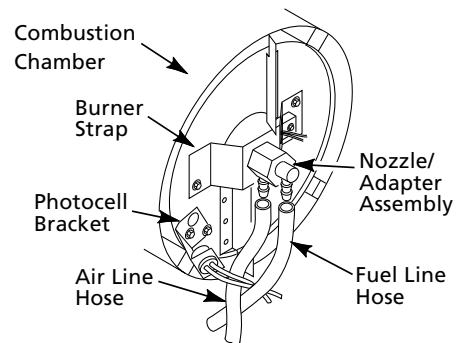
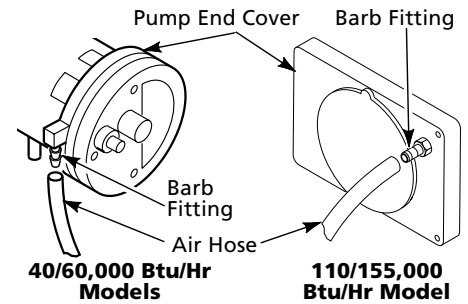

Figure 18 - Removing Air and Fuel Line Hoses (2E510F and 2E511F Btu/Hr Models Only)
Figure 22 - Air Hose to Barb Fitting
14. Replace photocell in photocell bracket. Route wires as shown in Figure 18 or 19.
3. Remove fuel and air line hoses from nozzle assembly (See Figure 18 or 19).
4. Inspect fuel and air line hoses for cracks and/or holes. If fuel line hose is damaged, disconnect from nozzle adapter (See Figure 18 or 19) and from fuel filter (See page 7). If air line hose is damaged, disconnect from nozzle adapter (See Figure 18 or 19) and from barb fitting on pump end cover (See Figure 22).
5. Install new air and/or fuel line. Attach one end of air line hose to barb fitting on pump end cover (See Figure 22) and the other end to nozzle adapter (See Figure 18 or 19). Attach one end of fuel line hose to fuel filter (See page 7) and the other end to nozzle adapter (See Figure 18 or 19). **NOTE:** Route hoses as shown in Figure 18 or 19 according to Model. Hoses are not to touch photocell bracket.